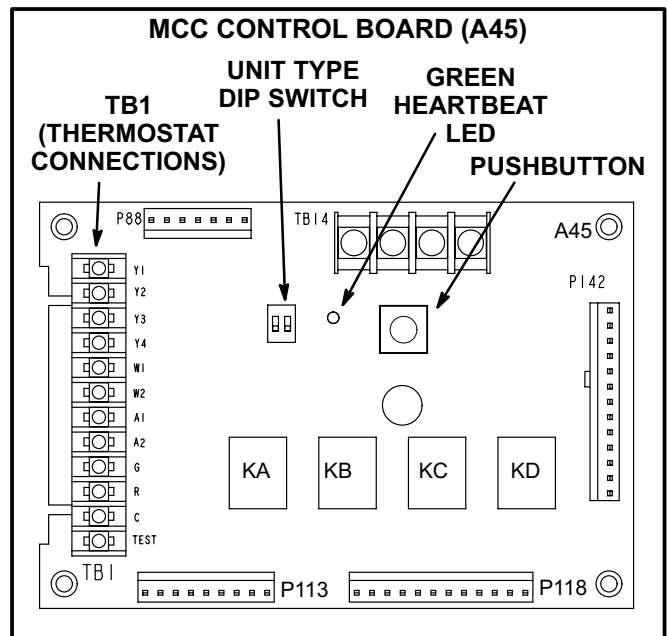

FIGURE 8
- 2- Locate green heartbeat LED on MCC board. See figure 8. LED should flash slowly to indicate normal operation. Refer to table 2 if the heartbeat LED is not flashing normally.